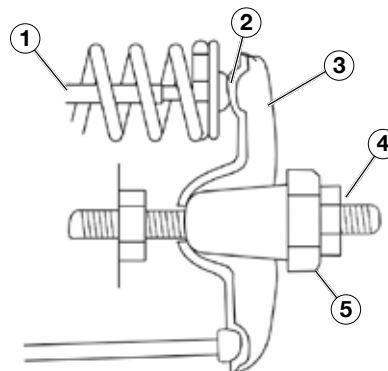

Figure 20
5. Insert a feeler gauge between the rocker arm and the push rod and check for clearance (see Figure 20). See Table 1 for valve lash specifications.